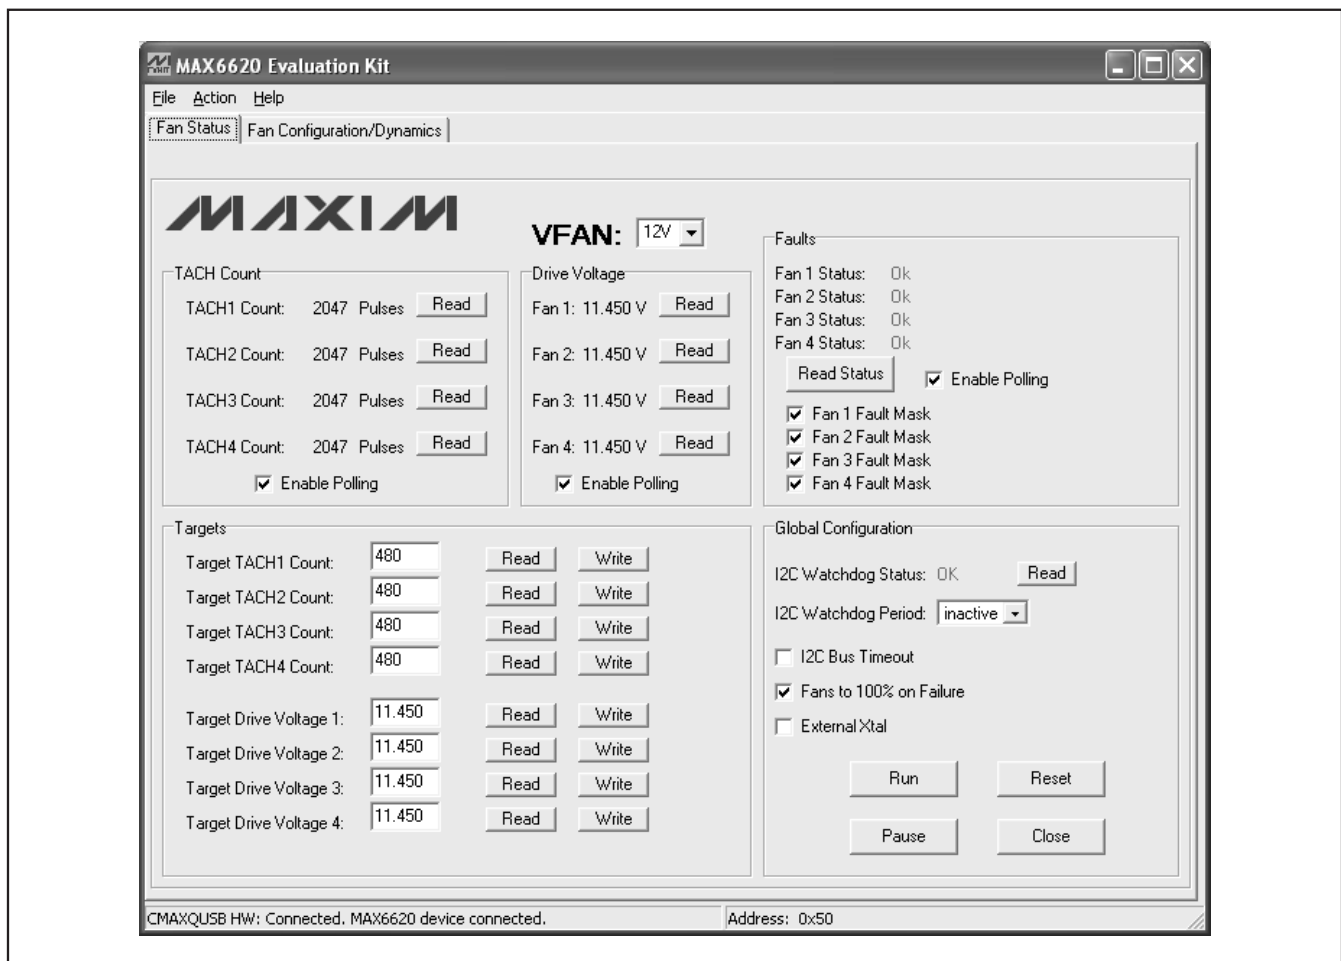
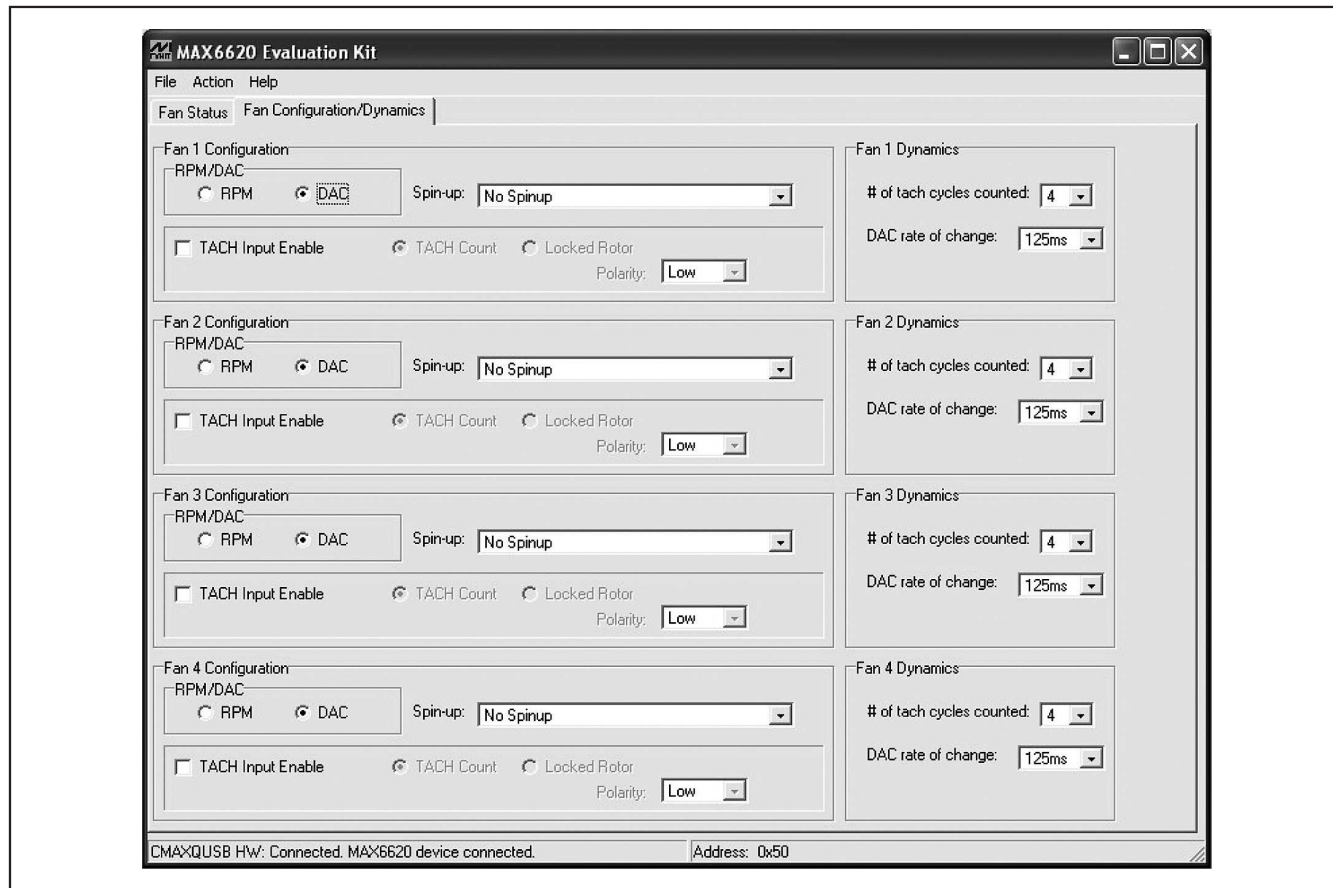

Figure 1. MAX6620 EV Kit Software—Fan Status Tab
Figure 2. MAX6620 EV Kit Software—Fan Configuration/Dynamics Tab
- 10) Normal device operation is verified when **C Maxwell HW: Connected. MAX6620 device connected.** is displayed at the bottom left of the MAX6620 EV kit main window (Figure 1).
The program's main window contains two tabs, **Fan Status** and **Fan Configuration/Dynamics**, which provide controls for the MAX6620 EV kit software's configurable features. The **Fan Status** tab sheet (Figure 1) provides controls for the **Global Configuration** register, **TACH Count**, **Drive Voltage**, **Targets**, and **Faults**. The **Fan Configuration/Dynamics** tab sheet (Figure 2) provides controls for **Fan Configuration** and **Fan Dynamics**. A status box is also provided at the bottom of the program's main window and is used to verify command module and device connectivity.
The MAX6620 EV kit software can be configured to work with 5V or 12V DC fans. Manually select the appropriate fan voltage from the **VFAN** drop-down list (Figure 1). The default setting is for use with 12V DC fans.
The **Fan_Configuration** group boxes (Figure 2) configure the corresponding fan's **Spin-up** conditions, **TACH Input Enable** settings, and set either RPM or DAC mode.
There are two methods for communicating with the MAX6620, through the normal user-interface panel (Figures 1 and 2), or through the SMBus commands available by selecting the **Interface Diagnostic Window** menu item from the **Action** menu bar. The **Maxim Command Module Interface** window pops up and includes a **2-wire interface** tab that allows for execution of the **SMBusSendByte()** and **SMBusQuick()** commands.